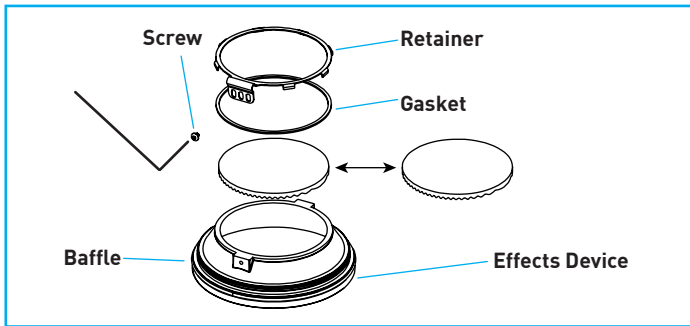

Fig.35
C. To change lens / film, remove lens retainer and gasket by loosening and removing screw. Insert preferred lens / film in proper orientation, securing with lens retainer / gasket and replacing and tightening screws *"Fig.35"*.